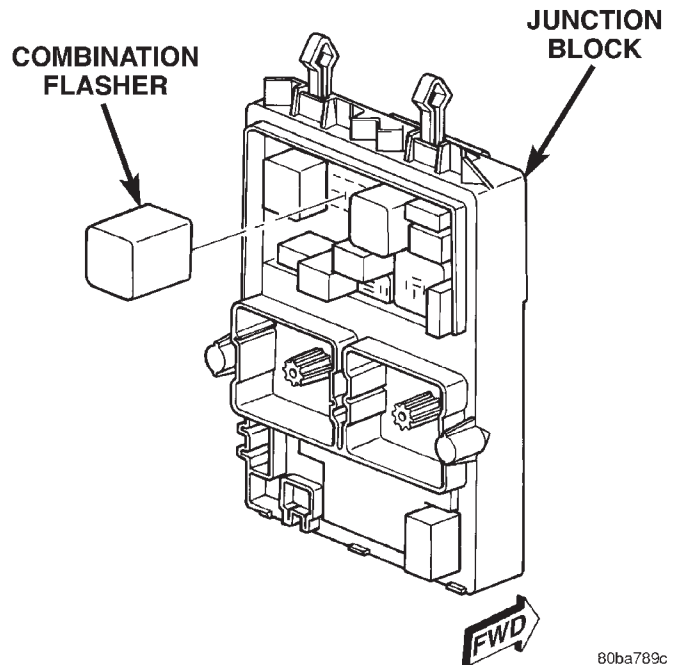

Fig. 4 Junction Block
(1) Disconnect and isolate the battery negative cable.
(2) Remove the steering column opening cover from the instrument panel. Refer to **Steering Column Opening Cover** in the Removal and Installation section of Group 8E - Instrument Panel Systems for the procedures.
(3) The rear window defogger relay is located on the right side of the combination flasher in the junction block (Fig. 4).
(4) Remove the rear window defogger relay from the junction block.